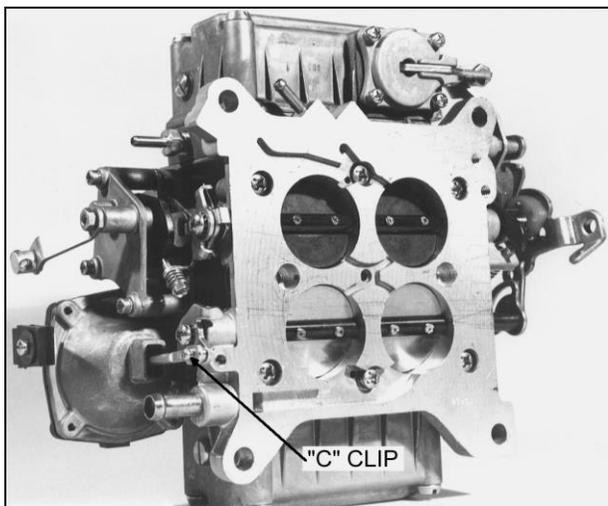

FIGURE 1
1. Place carburetor on its side to remove the throttle body screws. On vacuum secondary four barrels, it will be necessary to remove the "C" clip which holds the vacuum diaphragm stem onto the secondary throttle shaft. See Figure 1.